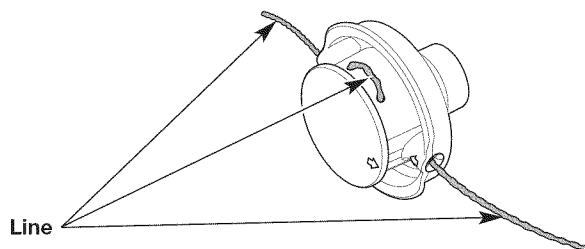

Fig. 16
4. Pull the ends of the line until the line is tight against the cutting head. Make sure the ends of the line are of equal length (Fig. 16).